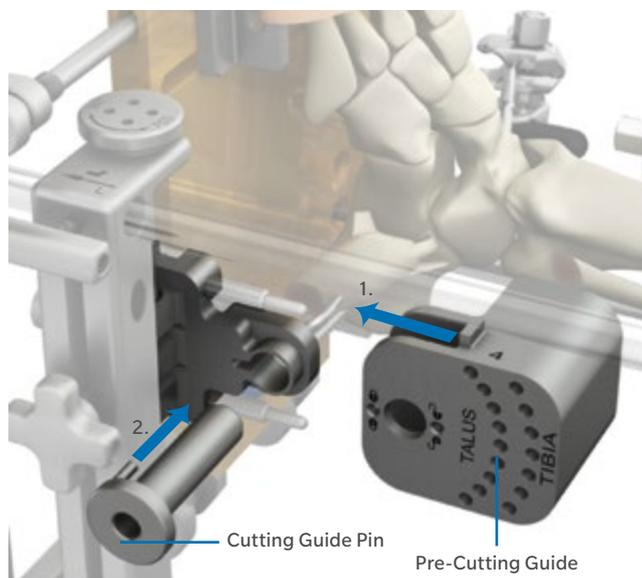

Fig. 41
- Lock the Pre-Cutting Guide with the Cutting Guide Pin to prevent rotation (Fig. 41).